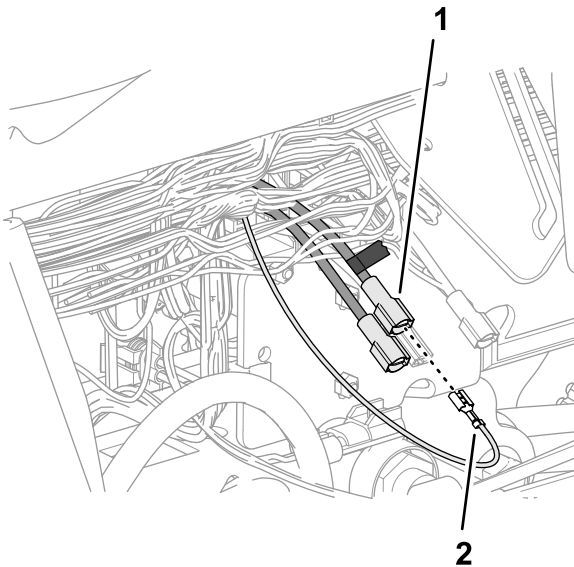

Figure 189
5. Connect the blade connector that you marked in step 4 into the socket connector at the end of the pink wire 51 mm (2 inches) of the kit wire harness (Figure 189).